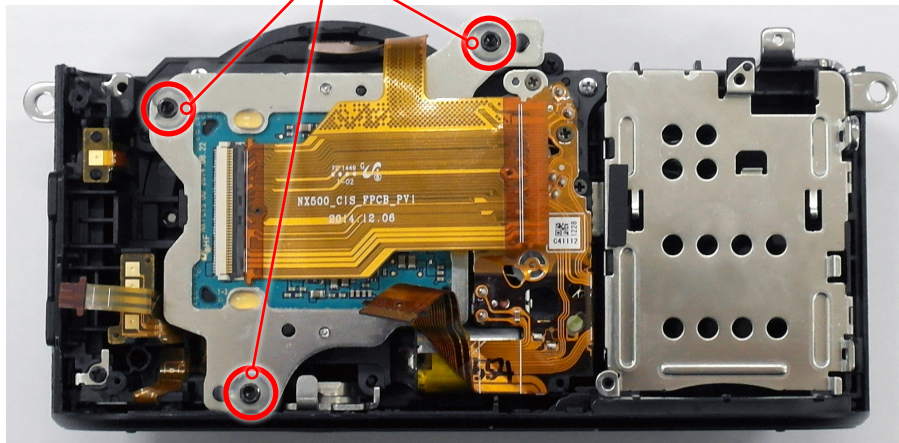

Fig. 8-1
3. After adjustment completion, Apply glue on 3 screws to fix the screw position as illustrated in Fig. 8-1.